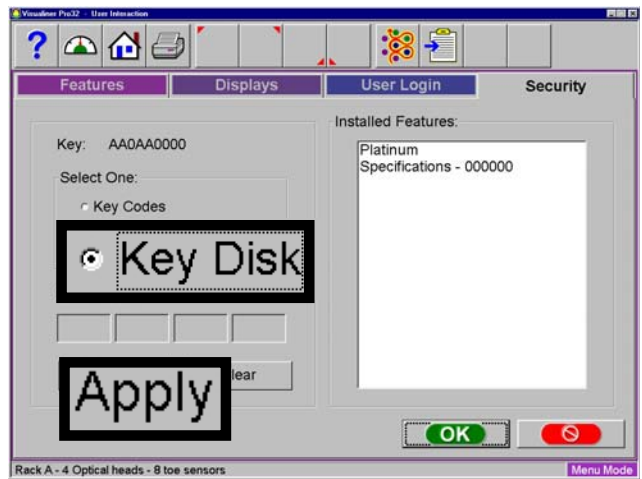

Figure 3-25
4. From the Security Menu select the “**KEY DISK**” radio button. Insert the “**PLATINUM KEY DISK**” into the floppy drive and select **<APPLY>**. Once the “Key Disk” has been loaded the disk is branded rendering it useless for installations on other units. Store the disk in the cabinet for future installations for this unit only. (Figure 3-25)